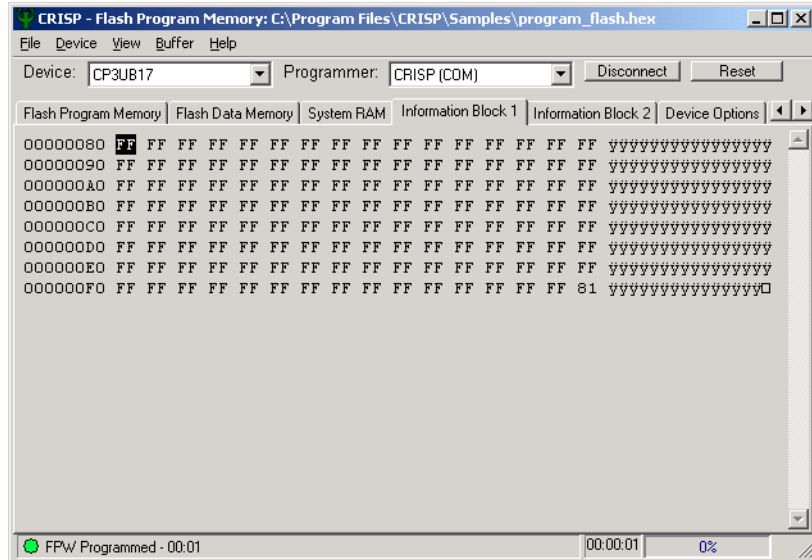

Figure 6-10. Successful Completion of Protection Word Programming
6. **Confirm Programming.** Click the Ok button to confirm the command to program the new Protection Word settings into the target device. If the operation is successful, the status bar circle will turn green, and the message FPW Programmed will be displayed, as shown in Figure 6-10.